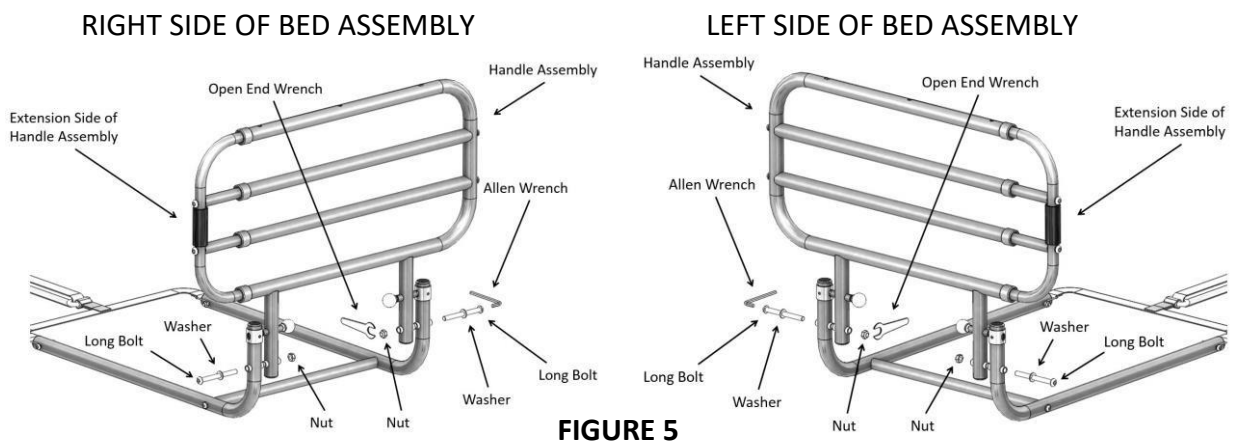

FIGURE 5
5. Secure the **HANDLE ASSEMBLY** to the **BASE STRUCTURE** with **LONG BOLTS**, **WASHERS**, and **NUTS** as shown in Figure 5.